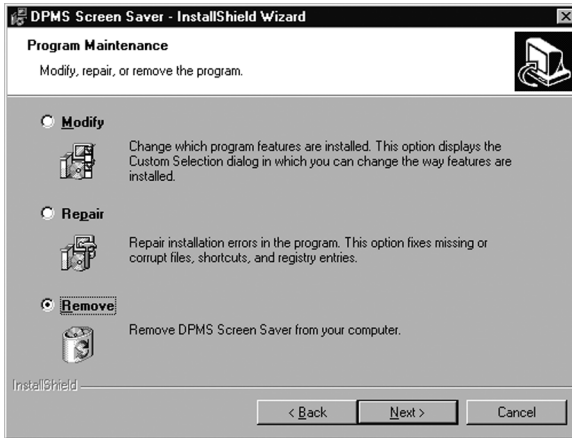

Figure 41
4. Click **“Remove”** on the Remove Program Screen of the Wizard (figure 41 below).